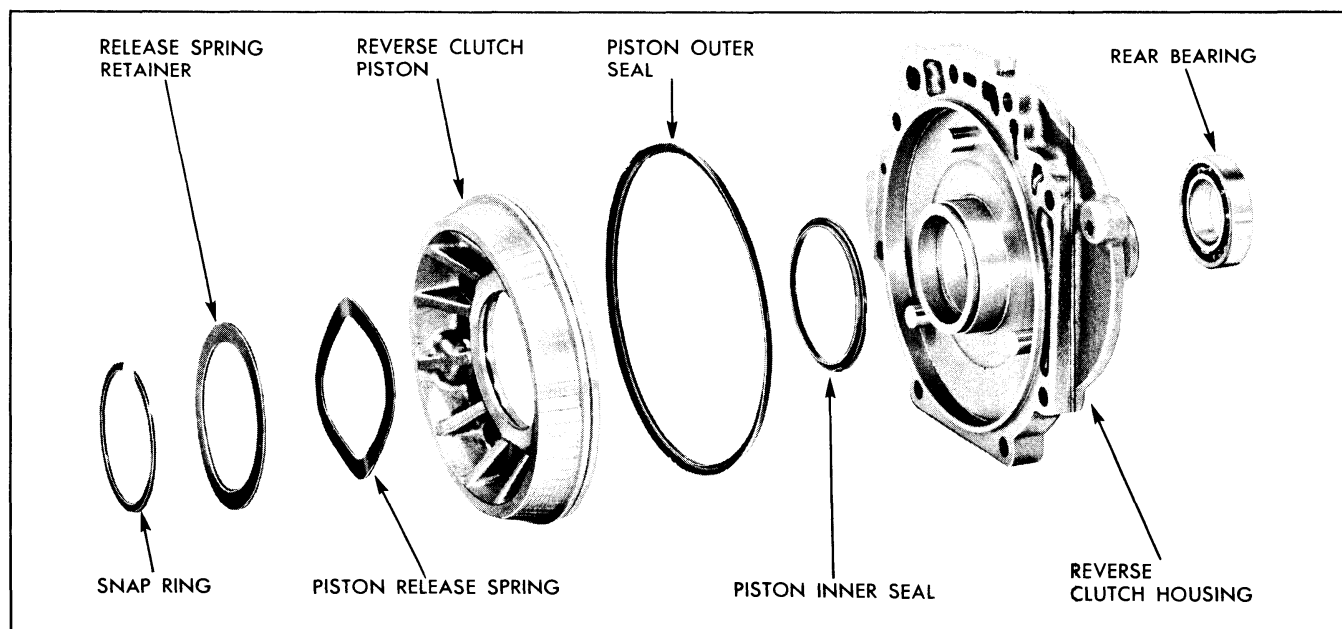

Fig. 7D-127 Reverse Clutch Piston, Housing and Parts—Exploded
1. Place tool J-7577 over inner hub of reverse piston housing (Fig. 7D-129).
5. Place release spring and retainer on piston and install large retaining snap ring (Fig. 7D-127). **NOTE:** Rear bearing will be installed after reverse piston housing is attached to transmission case.